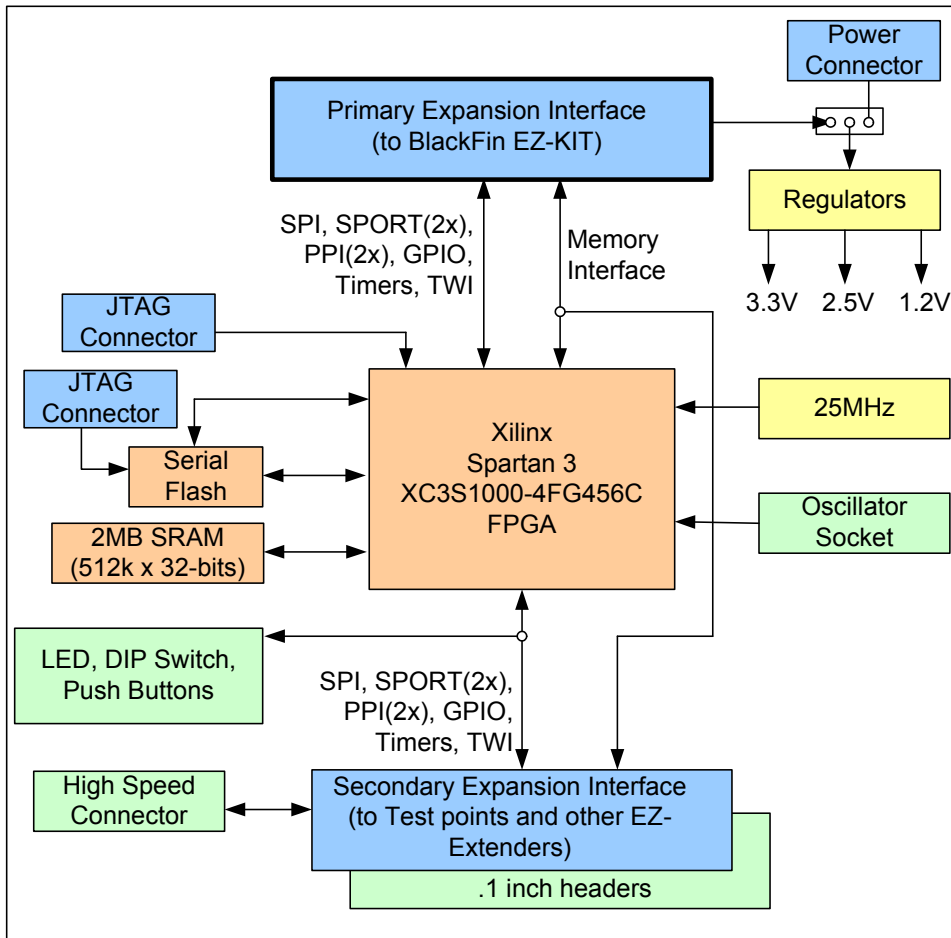

Figure 2-1. Block Diagram
4. Set the switches and jumpers on the FPGA EZ-Extender board. Use the block diagram in Figure 2-1 on page 2-2 in conjunction with “Jumpers” on page 2-11.
A block diagram of the Blackfin FPGA EZ-Extender is shown in Figure 2-1.